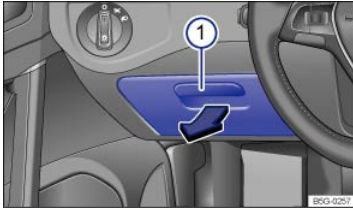

Fig. 159 On the driver side: Storage compartment.
To *open* the compartment, pull the handle ⇒ Fig. 159① in the direction of the arrow.